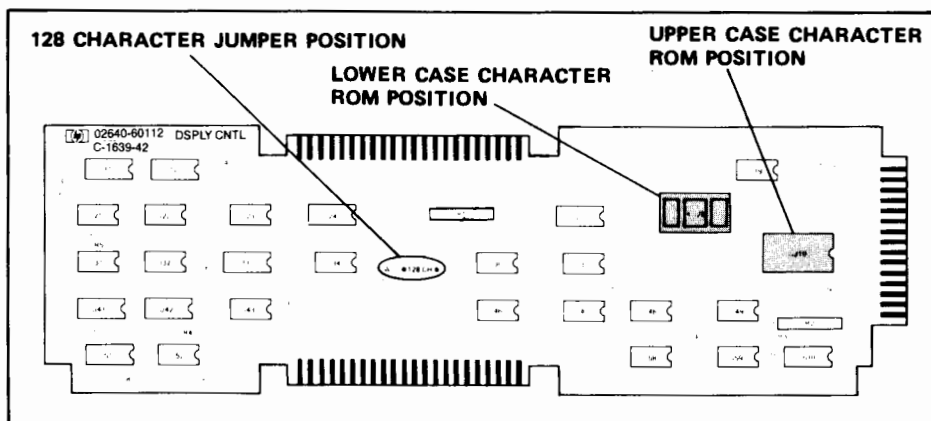
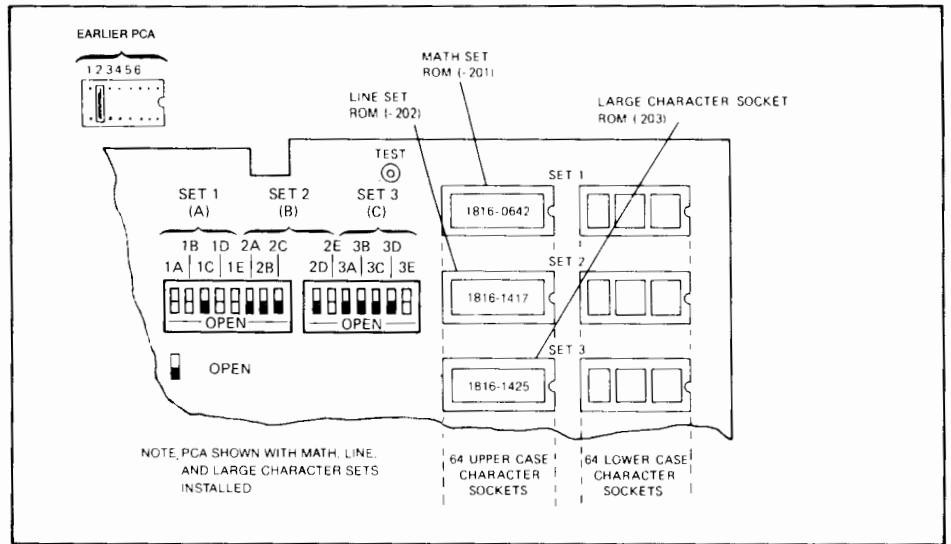

Figure 2-28. Display Control PCA ROM and Jumper Locations
Figure 2-29. Display Enhancement PCA ROM Locations
4. Remove the ROMs containing the character set(s) to be replaced. If the primary character set is to be replaced, remove both the upper case and lower case ROMs from the Display Control PCA (figure 2-28). If one or two alternate character sets are to be replaced, remove the upper case and lower case ROMs for the character set(s) to be replaced from the Display Enhancement PCA (figure 2-29).